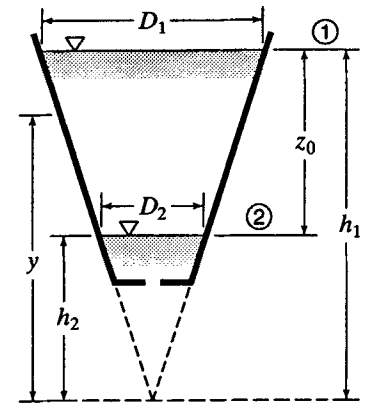

Figure X12.2.3
12.2.4 The cone-shaped tank in Fig X12.2.3 has the shape of the frustrum of a cone with a  $0.2\text{-m}^2$  orifice ( $C_d = 0.60$ ) in the bottom. Given  $D_1 = 12\text{ m}$ ,  $D_2 = 5.6\text{ m}$ ,  $z_0 = 10.4\text{ m}$ , and that the water level outside the tank is constant at section 2, how long will it take the water level in the tank to drop from section 1 to section 2? (Note: The tank diameter =  $ky$ , and  $y = z + h_2$ , where  $z$  is the variable distance between surface levels.)